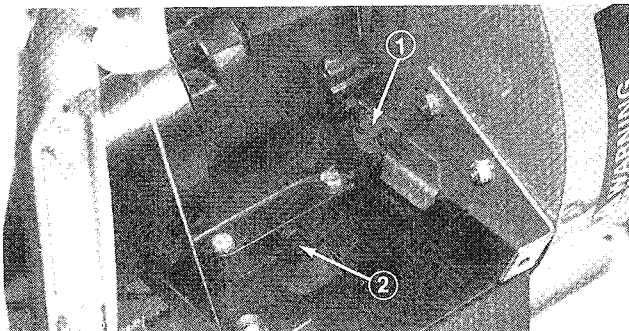

Figure 19
2. Clean area around drain plug (Fig. 19).